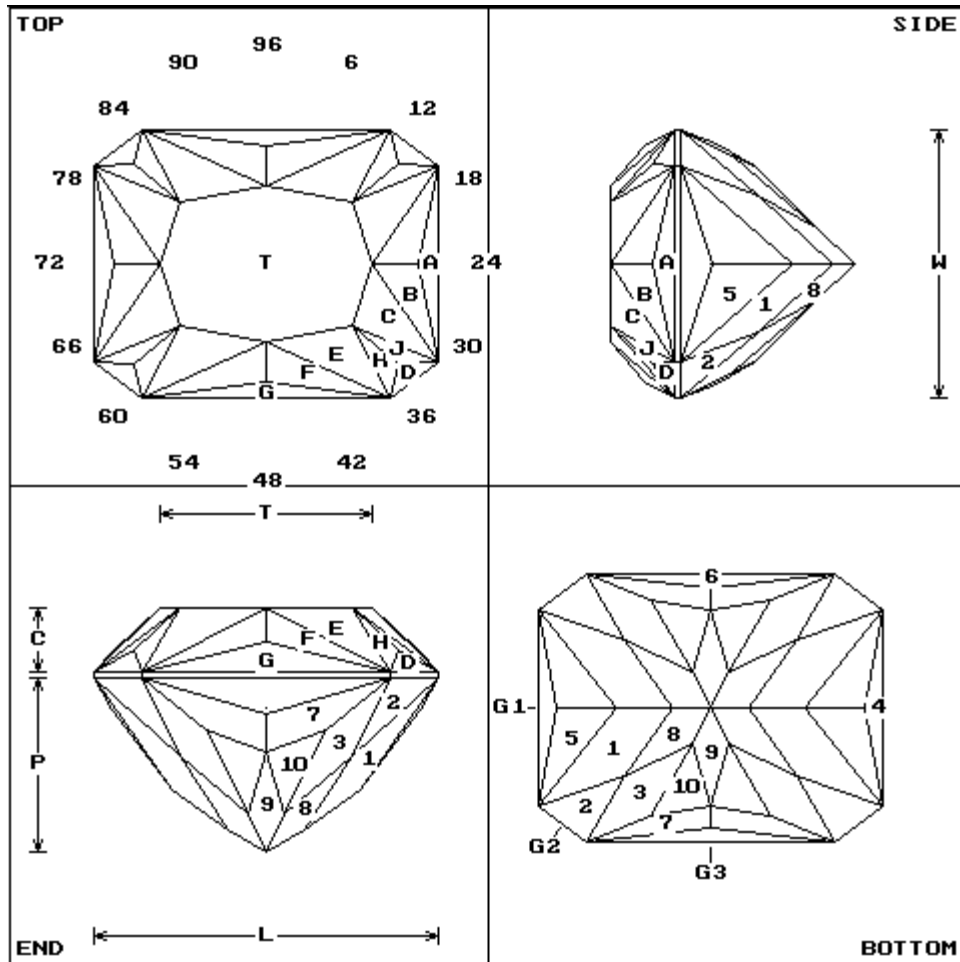

Figure 39.
Now, change to the **Diagram Menu** and let's name (label) the facets. Move the cursor inside one facet and press the **Name (n)** key. GemCad will highlight the facet and ask you for its name. Do this for each facet in turn. (To name a girdle facet, you must be inside the girdle facet in the Side or End View. Its name will be shown in the Bottom View, however.) Now press the **List to screen (l)** key to view the cutting sequence. Check to make sure each step has its name in the left column of the listing. If you wish, you may add cutting instructions for each step with the **Gloss (inst) (G)** key. The **Heading (H)** key command allows you to enter a heading of up to four lines. This is used to provide a title, designer, and date. The heading will show up at the top of the listing. The completed design should look like Figure 39.